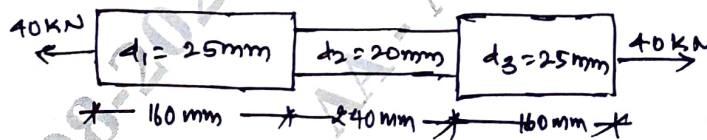

Fig.Q2(b)
- b. A bar shown in Fig.Q2(b) is tested in UTM. It is observed that at a load of 40kN, the total extension of the bar is 0.285mm. Determine the Young's modulus of the material.